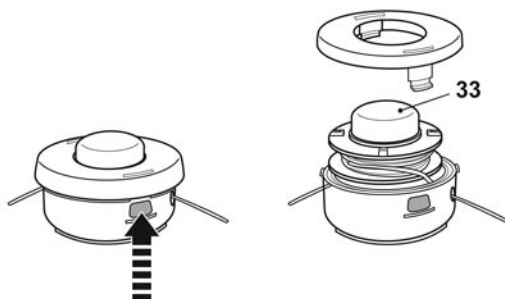

Fig. 32
- > To replace the reel, press the tabs of the cutting head cover to open the cover. Turn (if necessary) to remove the used reel and replace it with a new one of the same type (Fig. 32).